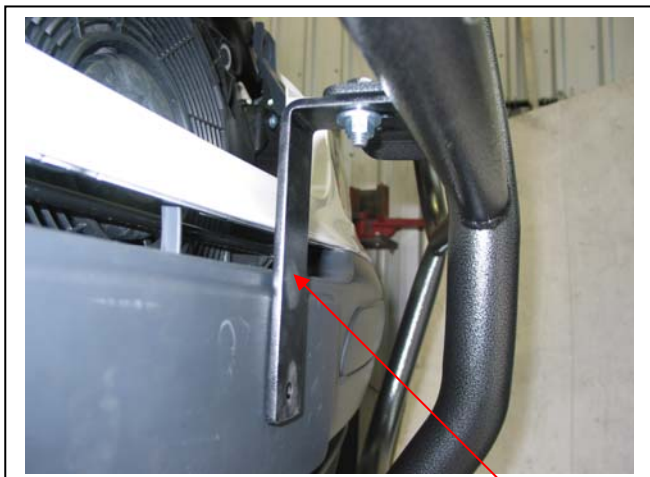

Figure 17 – Passenger side shown L Bracket
15. Bolt L brackets to underside of protection bar brackets, use inner holes. Use 3/8 x 1 ¼ bolts, nuts, flat and spring washers (supplied). **See figure 17.** Push back hard against bumper cover so that bumper cover contacts steel bumper cover support. Ensure brackets are square and **TIGHTEN IN POSITION. NOTE:** If L bracket cannot be positioned correctly, protection bar may not be positioned correctly. Loosen protection bar and realign. Retighten protection bar bolts and nuts.